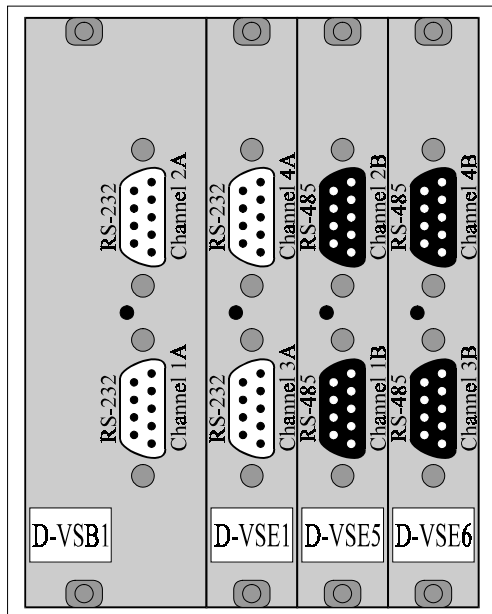

Fig. 1: Front panel of the unit
Each module contains two serial lines and is equipped with presence of feeding voltage signalling (green LED). The view to front panel of the unit is in Fig. 1 (unit DVS/17 – 4xRS-232, 4xRS-485).
Serial lines are counted in a way indicated in Figure 1. For one module PB-SIO4(A) are counted in the scope 1-4 according to unit type. The letter A or letter B identifies the module PB-SIO4(A), which services given serial line.